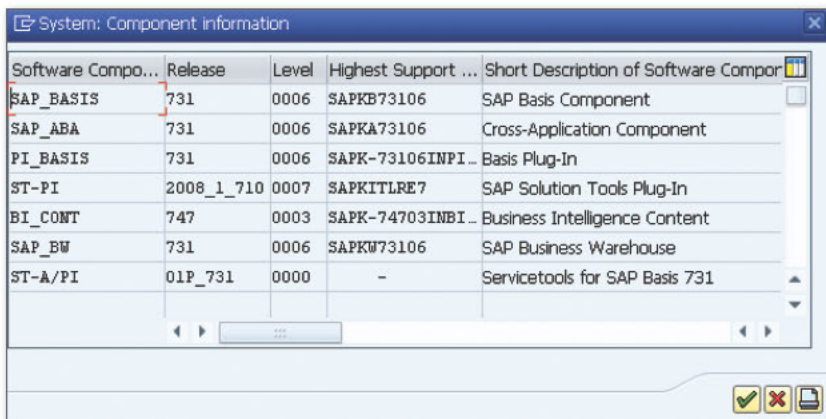

Figure 2 Patch Levels of Different Components
2. On the resulting screen (see Figure 2), click the DISPLAY button, and choose VERSIONS • VERSION MANAGEMENT.
» Figure 2 Selecting Version Management on the Display Program Screen
3. A popup screen will appear that shows the status and patch level of the different components installed (see Figure 2).